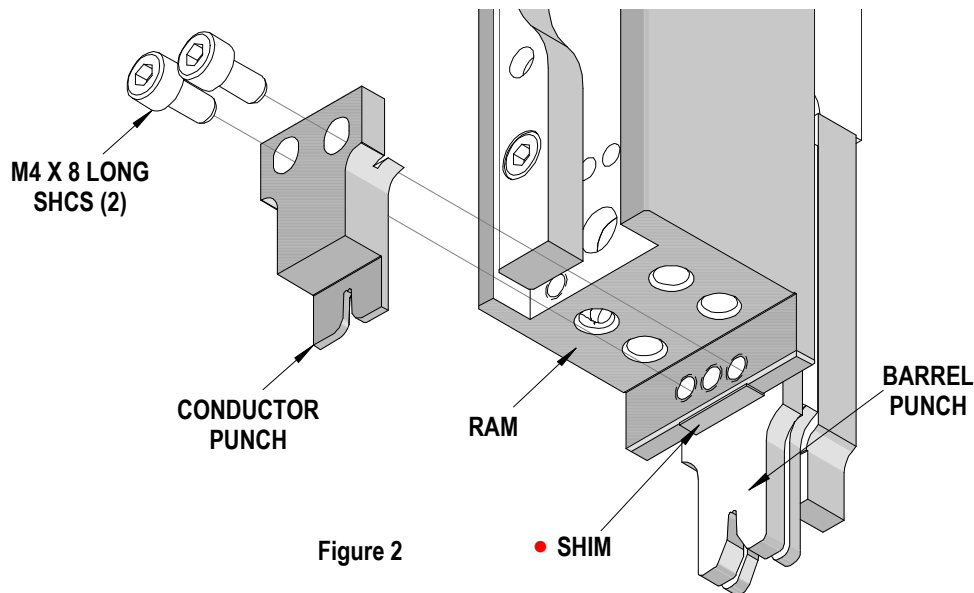

Figure 2
2. To achieve the reference "D" dimension listed in the chart above, a shim is required. These shims are not supplied with the applicator. The shim should be located between the ram and the conductor punch. See Figure 2.